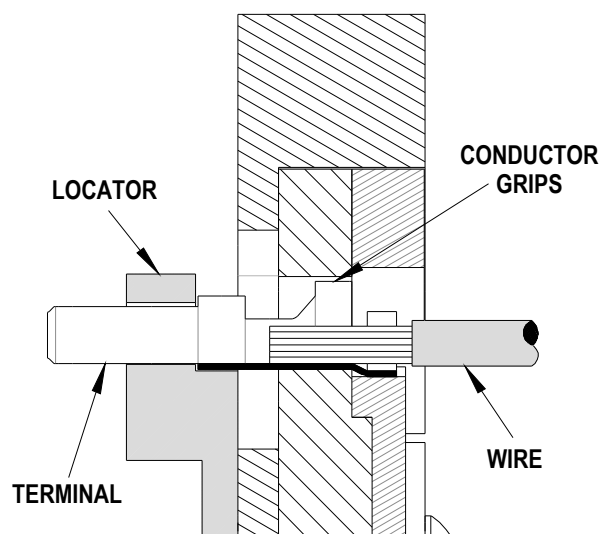

Figure 1
1. Place the terminal into the correct die profile (8) until the terminal stopped by the locator.
3. Place a pre-stripped wire into the terminal and align the wire with the conductor and insulation grips visually. See Figure 1.